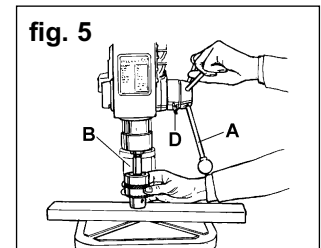

fig. 5
- 5.1.9. Screw the three feed handles and knobs to the hub of the pinion shaft (fig.5.A).
- 5.1.11. Insert thinner tapered end of arbor (fig.5.B) into drill spindle, fit chuck to protruding end of arbor and hold in place.
- 5.1.12. Turn feed handles to bring nose of chuck down onto wood (fig.5). Firmly pull on feed handle to seat arbor taper in spindle and chuck.
- 6.6.2. Loosen locking screw (fig.5.D) and set the scale to the depth required. Tighten locking screw.